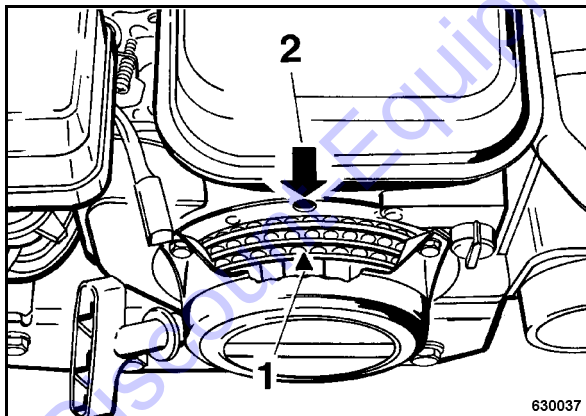

Fig. 60
- For this purpose align the alignment mark (1) (Fig. 60) on the starter disc to the top bore (2).